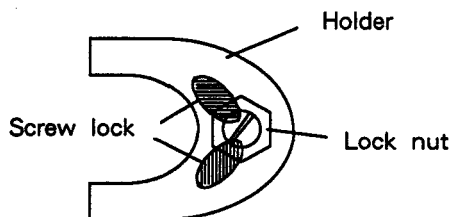

Fig. 2-20
- d. Apply screw lock compound as shown in Fig. 2-20 to the holder and both screw threads.